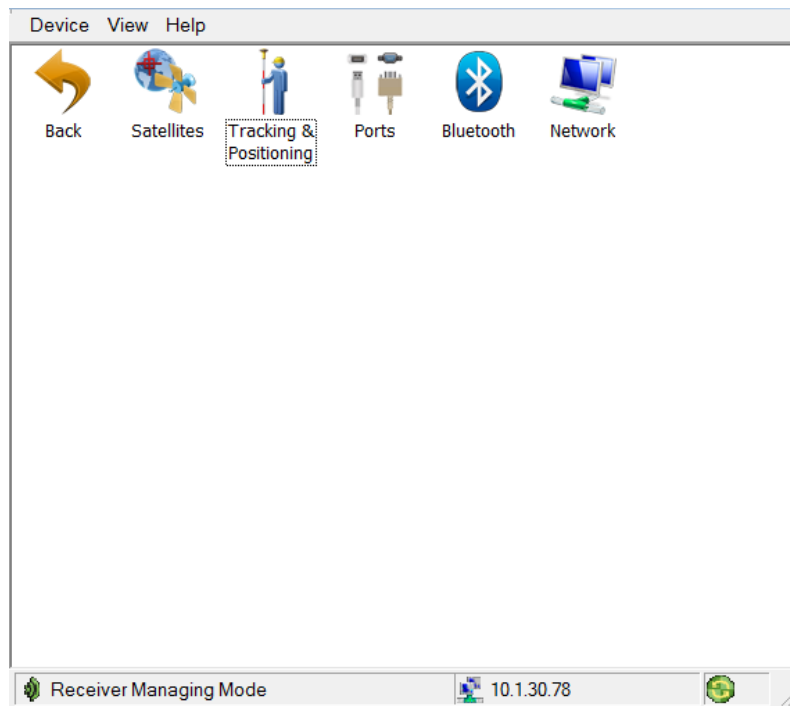

Figure 31: TRU – Receiver Settings
1. In TRU, click **Device** ▶ **Application Mode** ▶ **Receiver Managing** ▶ **Receiver Settings**. The **Receiver Settings** screen appears (Figure 31).